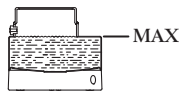

Fig. 4
- Open the espresso maker by turning it anti-clockwise, remove the filter funnel, and fill the boiler with cold water up to about 2-3 mm below the safety valve. (fig. 4)